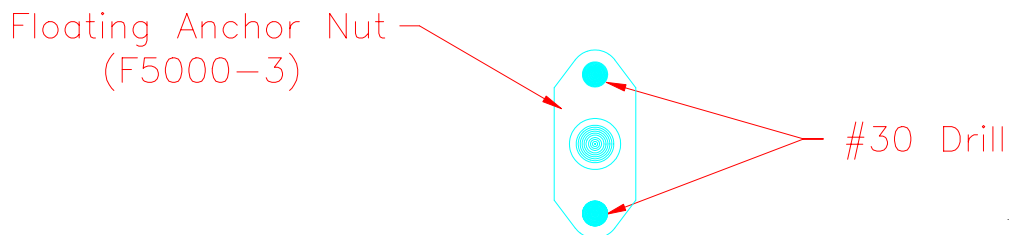

Figure 15.7.6
- 6) Drill the two #30 attachment holes through each floating anchor nut. Figure 15.7.6.